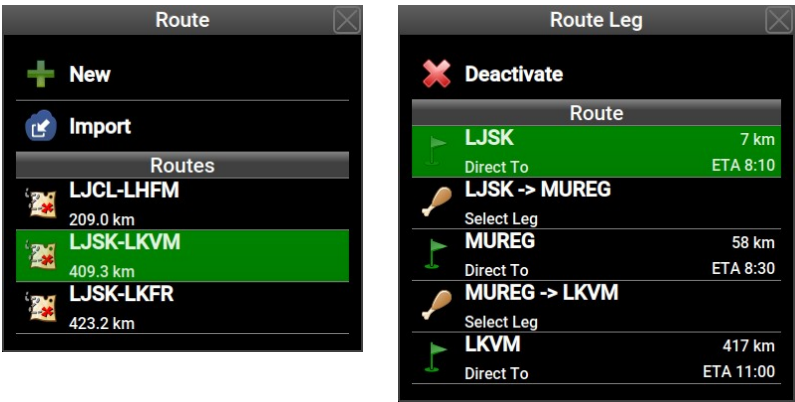

Figure 30: Route selection and activation window (left) and route manipulation window (right).
- When there is no active route, Nesis opens the route selection/activation window. See Figure 30 left. The window allows creation of a route, importing a route from USB stick or selection of one of existing routes from a list.
- However, if some route is already active, Nesis opens a route manipulation window. See Figure 30 right.
With no active route a window opens, like shown on Figure 30 left. Routes are sorted alphabetically. Route name is typically defined by a takeoff - landing airfield pair.
- Select the *New* option from Figure 30 left.
- Insert the stick into Nesis and select the *Import* command. See Figure 30 left.
When the *Route* command is issued and some route is already active, a different window appears. See Figure 30 right on page 51.